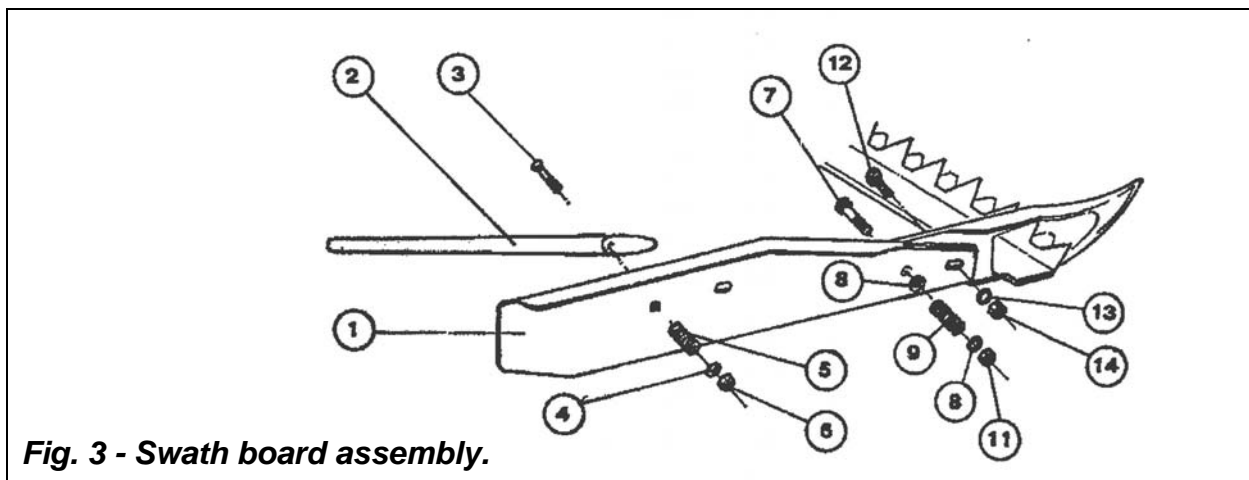

Fig. 3 - Swath board assembly.
3. Mount swath board (#1) (see fig. 3) and fasten with hex bolt M12x50 (#12), washer $\text{\O}12$ (#13), and self-locking nut (#14). Insert hex bolt M12x90 (#7), washer $\text{\O}12$ (#8) and fasten with self-locking nut (#11).